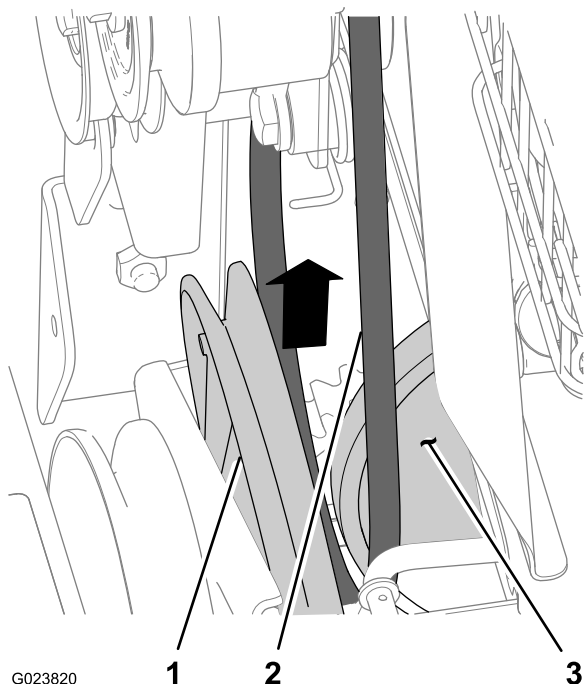

Figure 43
- Slip the traction belt out of the groove of the traction pulley and up between the pulley and the friction wheel (Figure 43).
- Align the traction belt between the friction wheel and the traction pulley (Figure 43).